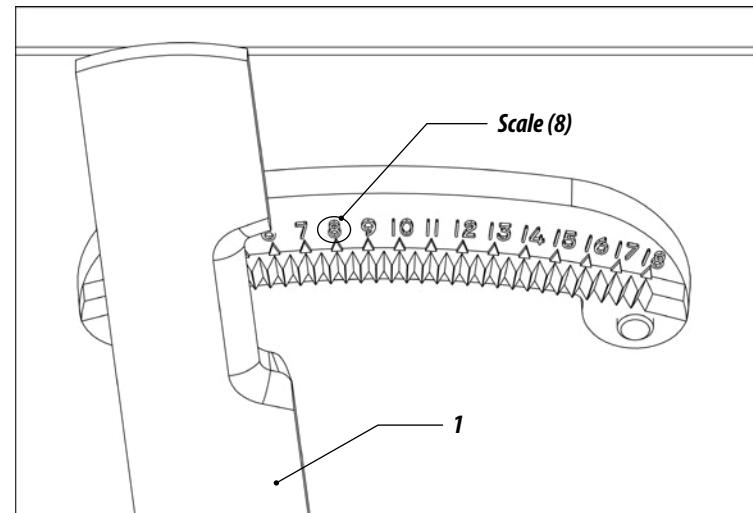

Figure 16
05 - The seed adjustment lever (1) must be set on number 8 of the scale and in hole 1 in the seed gauge. (Figure 16).